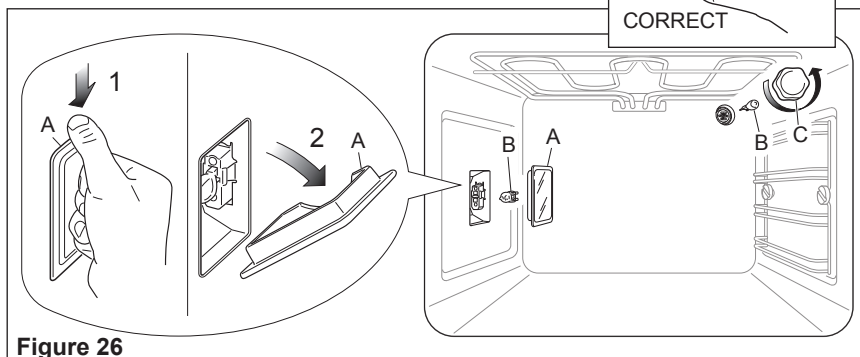

Figure 26
- Press down from the top the protective cover “A” (fig. 26) and remove it by rotating on the lower side.
- Remove the protective cover “C” (fig. 26).